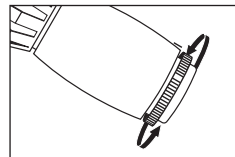

Figure 7
1. All Sightron Fixed and Variable power riflescopes are factory preset for zero (0) diopters or 20/20 vision.
2. Certain models contain the Fast Focus Eyebell (Figure 7) which allows the shooter to adjust their diopter quickly by turning the diopter adjustment located at the end of the eyepiece. All